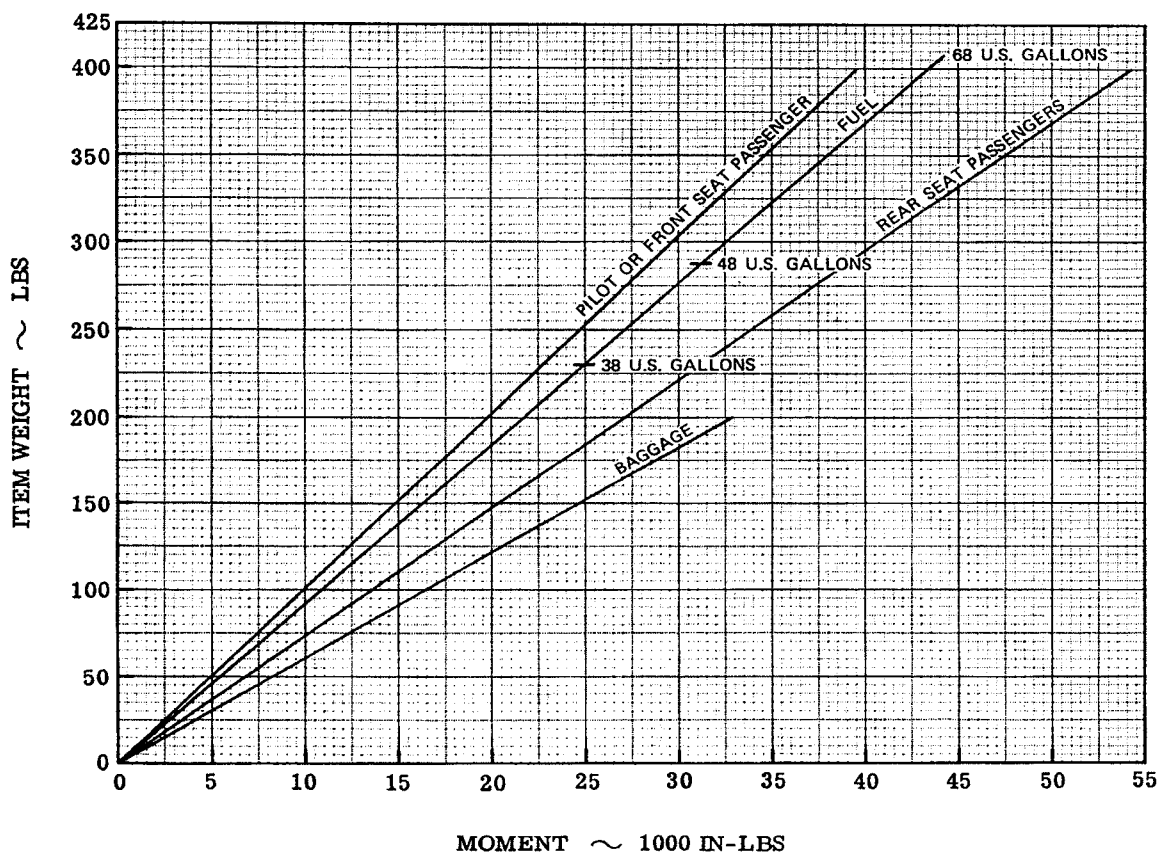
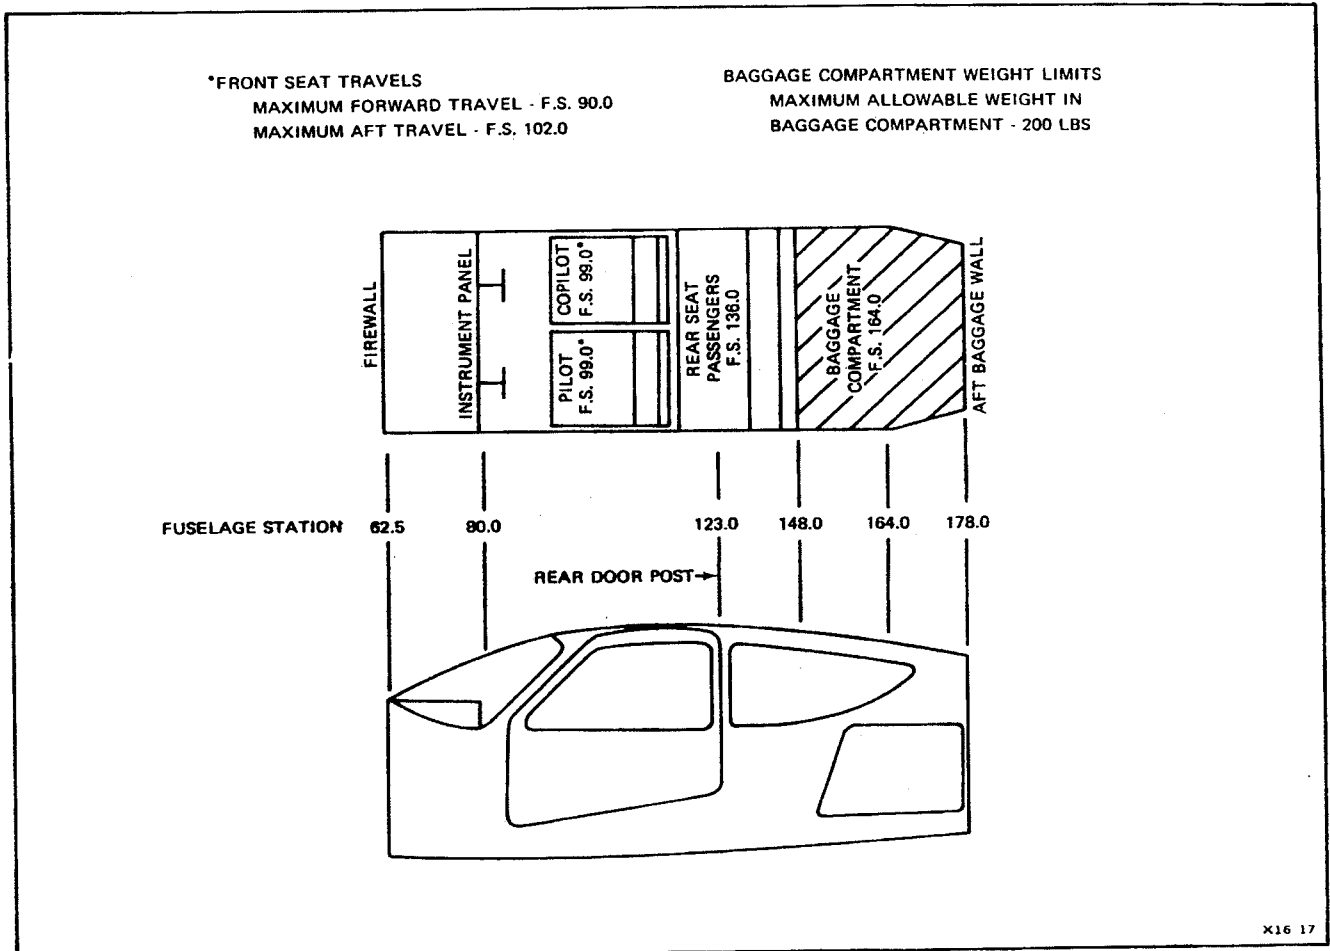

Figure 6-1. Loading Graph
Figure 6-2. Cabin Station Diagram
Seats should be located per Weight and Balance Statement (Form No. AC 1753) with the seat backs in a vertical position (see Figure 6-2).
2. Determine the weight of the pilot, then refer to the loading graph (Figure 6-1) to determine the moment/1000 value. Enter these numbers in the Item 2 row under the appropriate columns of the Airplane Weight and Balance Statement.
- a. Determine the front seat(s) location with respect to a fuselage station. (Front seat F.S. travels are depicted in Figure 6-2).
3. Determine the weight of the passengers then refer to the loading graph (Figure 6-1) to determine the moment/1000 value, using the proper loading lines. Enter the weight and the moment/1000 under the appropriate columns of the Item 3 row of the Airplane Weight and Balance Statement.
4. Determine the weight of cargo and/or baggage to be carried, then refer to the loading graph (Figure 6-1) to determine the moment/1000 value. It must be noted that the loading graph for the baggage assumes a fixed fuselage station location of 164.0 inches; however, at times it might be desirable to carry baggage in different areas of the baggage compartment or the cabin. Should this be the case, refer to Figure 6-2 to determine the fuselage station location, then calculate the moment/1000 by using the same procedure explained in Step No. 2. Enter the weights and moment/1000 values in Row 4 under the appropriate columns of the Airplane Weight and Balance Statement.